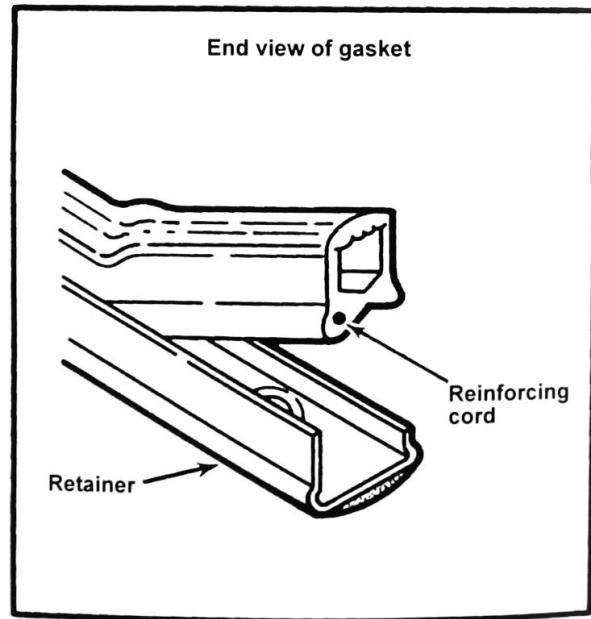
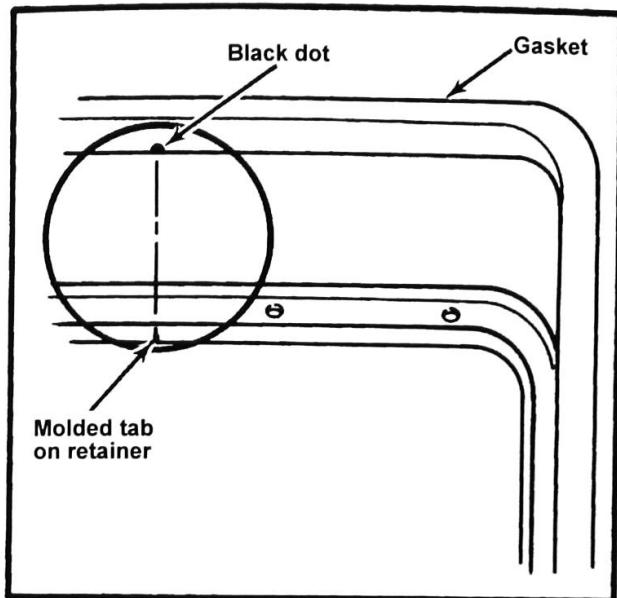

Figure 6
Figure 7
**NOTE:** Do not pull or stretch the gasket. This will break the inner reinforcement cord, which would then allow the gasket to stretch too far. See Figure 6.
The black dot on the gasket indicates the center of the gasket. The retainer center is indicated with a molded tab. See Figure 7. Also, there is a second black dot (smaller) on the end of the gasket that indicates the reinforcement cord. See Figure 6.
1. Line up the black dot on the gasket center with the center tab on the retainer. The black dot goes to the back and down on the retainer bottom. See Figure 7.